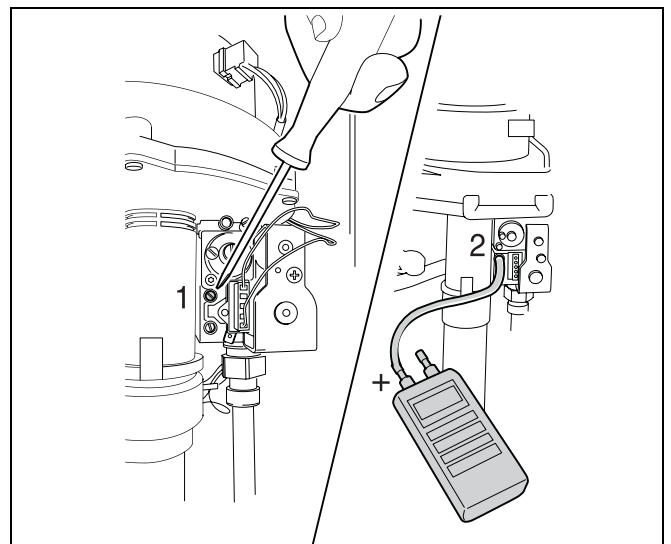

fig. 54 Check the gas/air ratio
- Open the top measuring nipple (see fig. 54, item 1) with two turns.
- Connect a tube from the "+" side of the pressure gauge to burner-pressure testing nipple (see fig. 54, item 2)
- Remove the tube from from the burner-pressure testing nipple (see fig. 54, item 1).